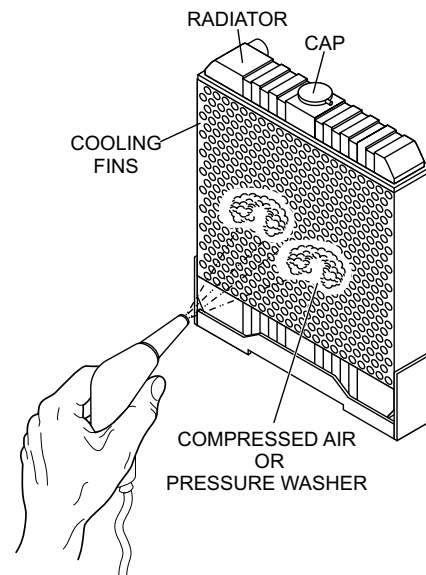

Figure 53. Radiator Cleaning
5. Blow off dirt and dust from fins and radiator with 28 psi (193 kPa) or less of compressed air (Figure 53) Be careful not to damage the fins with the compressed air.